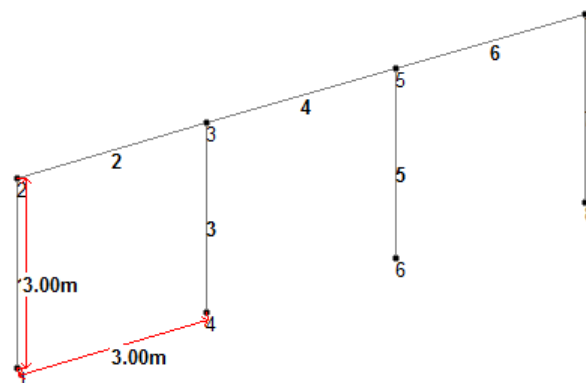

Figure 2-27 Portal frame structure
In this example, you will create a structure, as shown in Figure 2-27 using the **Snap Node/Beam** method.
Step 10: Next, close the **Snap Node/Beam** window; the structure is created, refer to Figure 2-27.